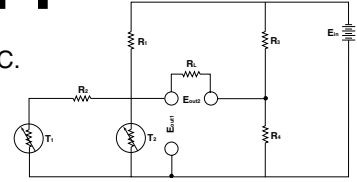

Figure 1
\*\*\* See Figure 1, example 1 on typical linear component application on next page.
- Using the Linear network as two legs of a Wheatstone bridge add the two additional legs,  $R_3$  and  $R_4$  so that  $E_{out2} = 0$  when  $T = 30^\circ\text{C}$ . (See Figure 1.)  $R_3$  and  $R_4$  are calculated from five known conditions.